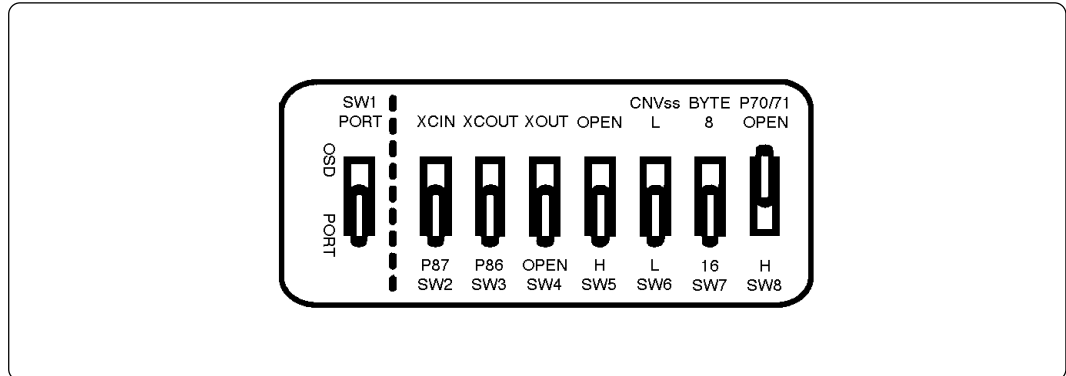

Figure 4.3 Switch settings when running self-checks (factory-settings)
- (1) Set the switches in the emulation pod same as the factory setting (see Figure 4.3).
- (2) When the target system is connected, disconnect it.
- (3) Within 2 seconds of activating power to the emulator, press the RESET switch on the emulator front panel to switch the emulator to the maintenance mode.
- (4) Check the "SAFE" LED starts blinking and then press the RESET switch again.
- (5) The self-checks will start. If the normal result is displayed in about 2 minutes, self-checks terminated normally.
- Check if the switches in this product are set same as the factory-settings (Figure 4.3).